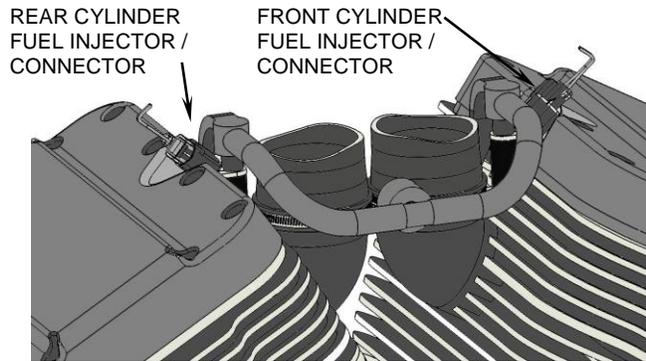
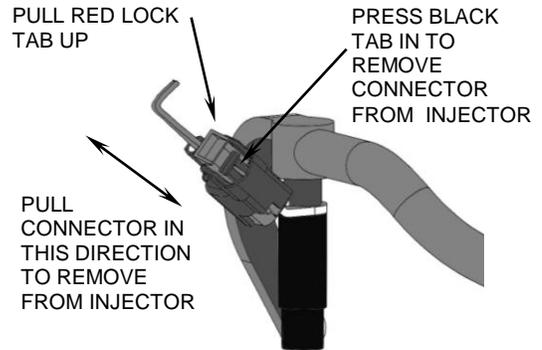

FIGURE 5
FIGURE 6
8. From left side of motorcycle, locate the rear fuel injector connector between cylinder heads, see Figure 5. Pull the "RED" pull tab up towards the top portion of the connector, assistance will be needed to prevent the injector from rotating during this procedure, see Figure 6. Once the Red tab is pulled upward, push in on the black tab below it, see Figure 6 & 7. While pushing in on black tab, pull entire connector upward and remove from injector. Right angled long nose pliers and assistance with a flat blade screwdriver from left side of engine will help with this. It may be necessary to snip the zip tie from the injector wires to the fuel rail, to allow adequate wire length to free connector from injector. Pull injector connector outward towards left side of motorcycle. Install the shorter (closer to PPT module), female connector onto rear injector. Mate stock female connector with male PPT connector. Be sure all connectors seat firmly and Red lock tab on stock female connector is locked, see Figure 8.
9. Locate front cylinder injector connector from left side of motorcycle, Figure 5. Pull Red lock tab upward, see Figures 6 and 7, depress black tab under it and pull connector straight up and free from injector. Mate the longer PPT female connector to the front injector and seat firmly, see Figure 8. Mate the PPT male connector with stock female connector and seat firmly together. Depress red lock tab on stock connector.